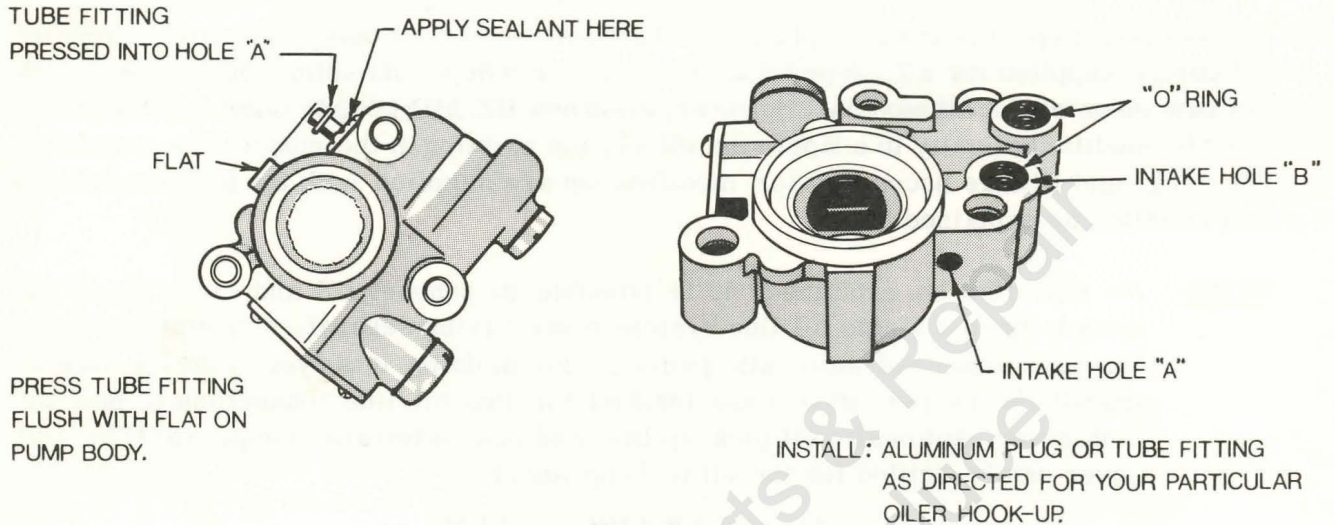

Figure 2
2. If the new automatic pump A-65212-B is being installed, plug hole "A", shown in Figure 2 with the aluminum plug supplied with the pump assembly. In this modification the tube fitting that also comes with the pump will not be used. Complete your reassembly of the saw, and check the flow from both the manual and automatic pumps.
- a) Install the tube fitting (supplied loose) in intake hole "A" called out in figure 2. Seal with 3-M Cement—this is the suction side of the pump.
- b) Remove the O-ring from intake hole "B" called out in figure 2, and plug this hole with the aluminum plug supplied with the pump assembly. Reinstall the O-ring.
2. When installing the new A-65212-B automatic oil pump, refer to Figure 2. Use the aluminum plug to plug "A". The tube fitting is not used for this application.